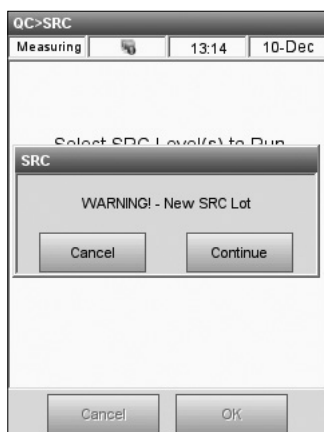

Fig. 4-3 New SRC Lot
3. A warning will be displayed when a new SRC lot is used (Fig. 4-3). Press **<Continue>**.